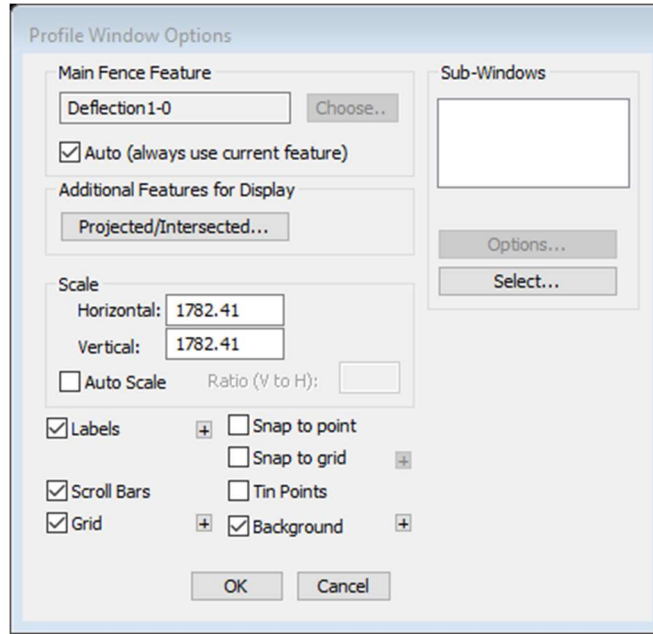

Figure 4-11: The Profile Window Options dialogue box.
5. Right click in the profile window and select *Active Window (Profile) Options* and the *Profile Window Options* dialogue box will appear as shown in Figure 4-11 below.